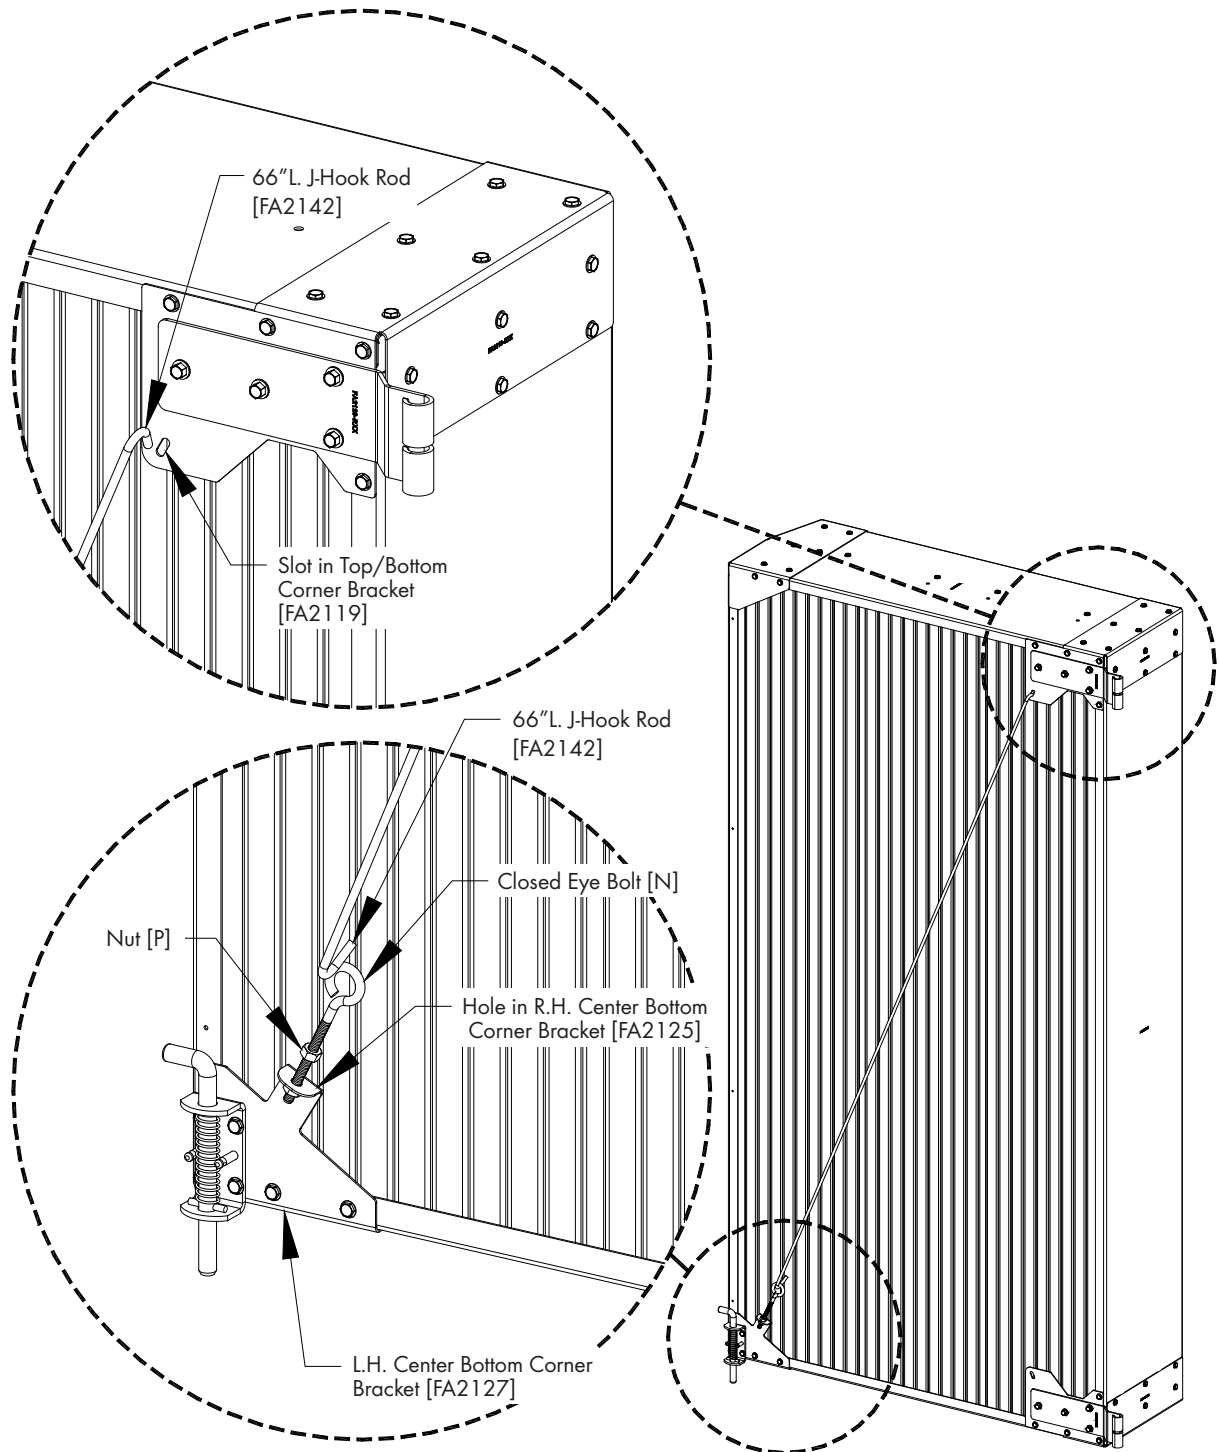

Figure 21
Thread (1) Hex Nut [P] onto Closed Eye Bolt [N] most of the way up the threads, then insert the threaded end of the Eye Bolt through the hole in the Center Bottom Corner Bracket and thread 2nd Hex Nut [P] on Eye Bolt 1". Hook the end of the 66"L. J-Hook Rod through the slot in Top Corner Bracket and hook the other end of the Rod on the Closed Eye Bolt and adjust the bottom Hex Nut until the Rod is taut. Repeat for the opposite side of the door. See Figure 21. Adjust both lower Hex Nuts so door is square, Then thread the upper nut down to the Bottom Corner Bracket.